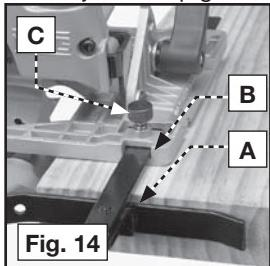

Fig. 14
- Insert the rip guide (A) Fig. 14 through the slots (B). Slide the guide in until it extends through the both slots in the sawbase.
- Place the compression spring on the thumb screw (C) Fig. 14 (supplied with the rip guide), and thread into the hole in the saw base. **DO NOT TIGHTEN.**